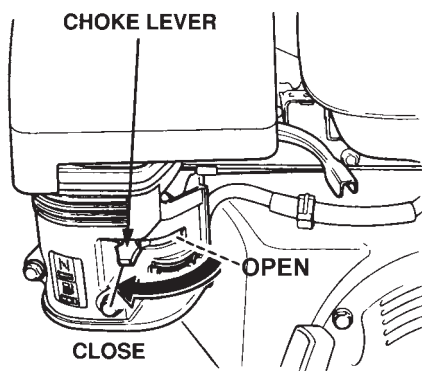

Figure 20. Engine Choke Lever
- Place the **Choke Lever** (Figure 20) in the "CLOSED" position.
- If the engine has started, slowly return the choke lever (Figure 20) to the "OPEN" position. If the engine has not started repeat steps 1 through 5.